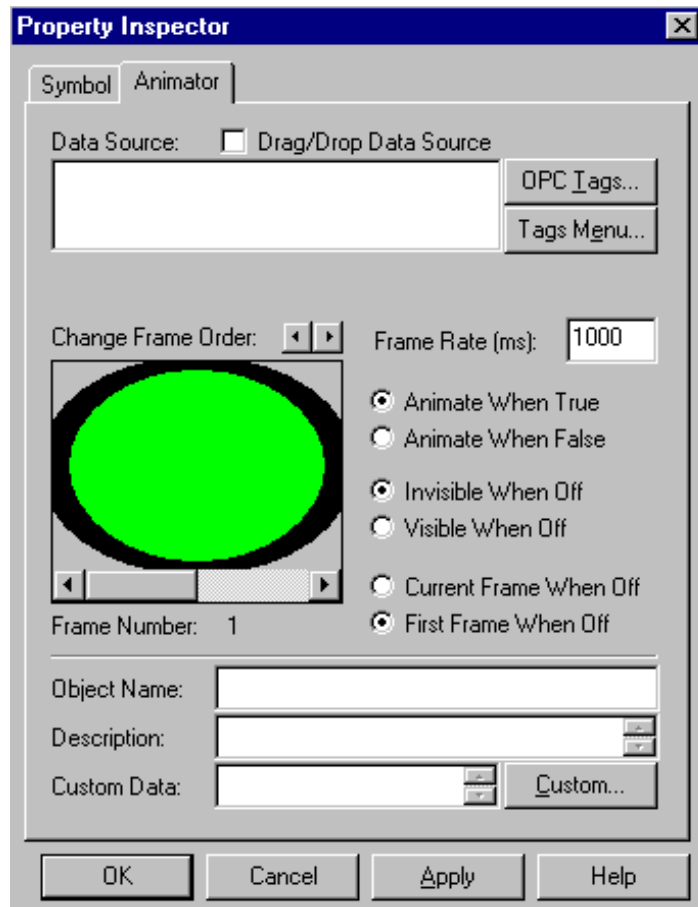

Figure 11-13: Property Inspector Dialog Box - Animator Tab
2. On the Dynamics menu, select Actions > Animator. The Property Inspector dialog box appears with the Animator tab (Figure 11-13).